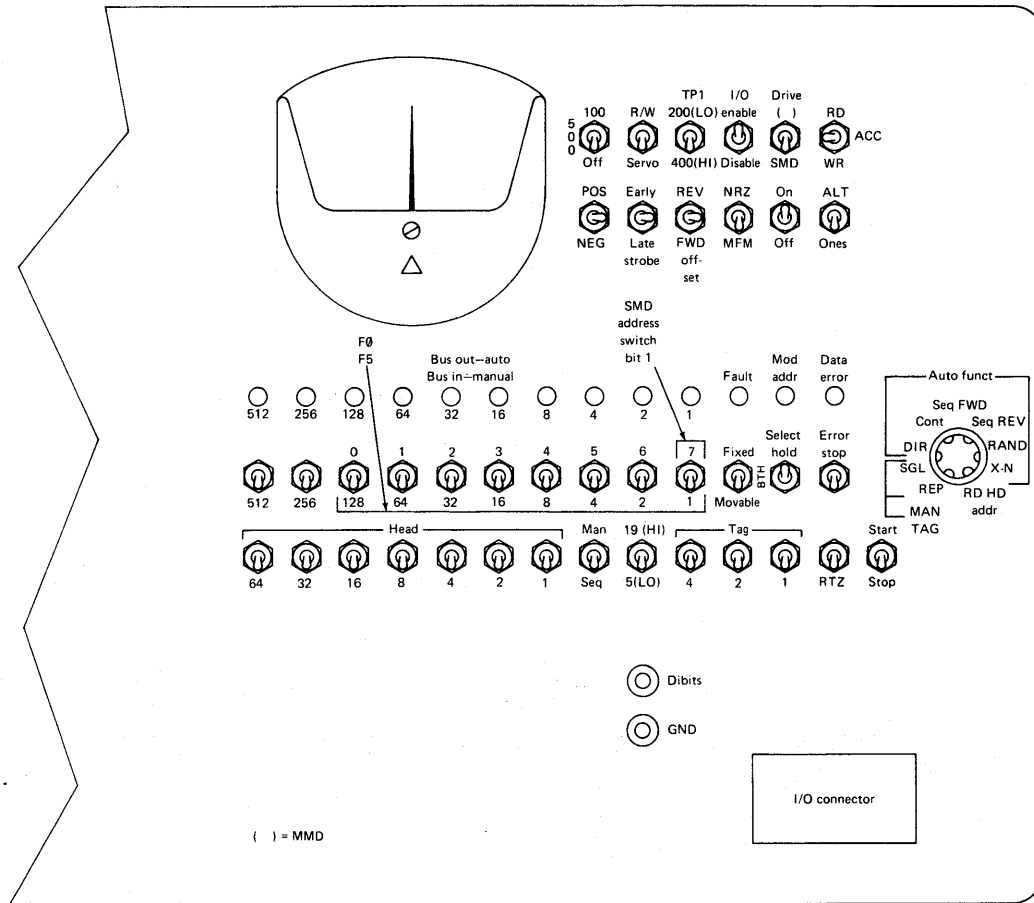

Figure 57. FTU operator's panel
The first operation to perform is a direct access to cylinder 240 (F0₁₆). Before the access can be activated, the drive must first be addressed using the following procedure and figure 57.
- _____ Step 14. Set BUS OUT switches 1, 2, 4, and 8 to match drive's logic plug numbers, or drive's unit select switch settings (0, 1, or 2). (See figure 57.)
- _____ Step 23. Set the BUS OUT switches to desired cylinder. Enter cylinder F0 (cylinder 240). (See figure 57.)